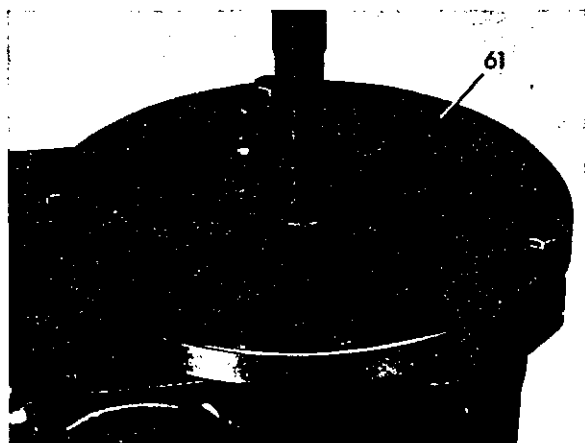

Fig. 37
15 Support gear set, front, with the assembly flange (61) of the assembly fixture **Fig. 37**